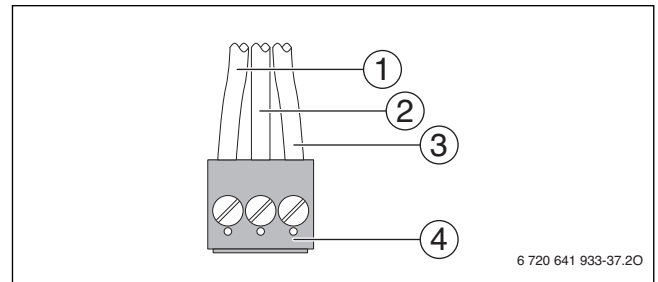

Fig. 56 Attach plug (external DHW tank loading pump or 3-way valve)
- ▶ Connect cable to **the red plug** according to Fig. 56.